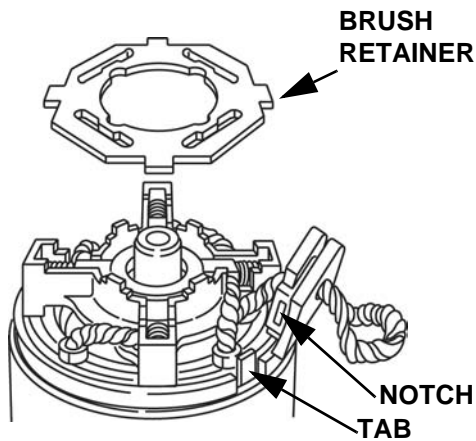

Fig. 118
8. Assemble rubber seal to starter housing, Fig. 118.